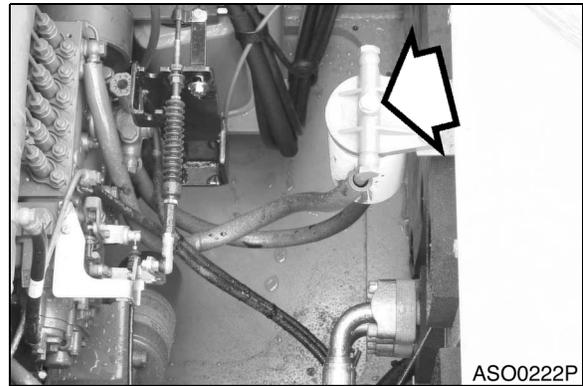

**Figure 15**
10. Make sure fuel tank drain valve (Figure 15) on bottom of tank is closed.